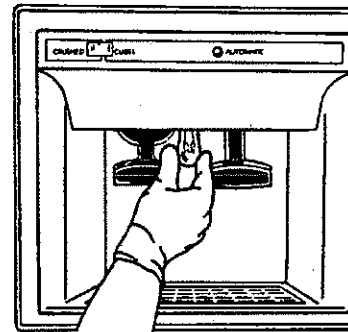

Figure 93
b. Wear protective gloves to remove defective bulb and replace with functioning bulb. See Figure 93.